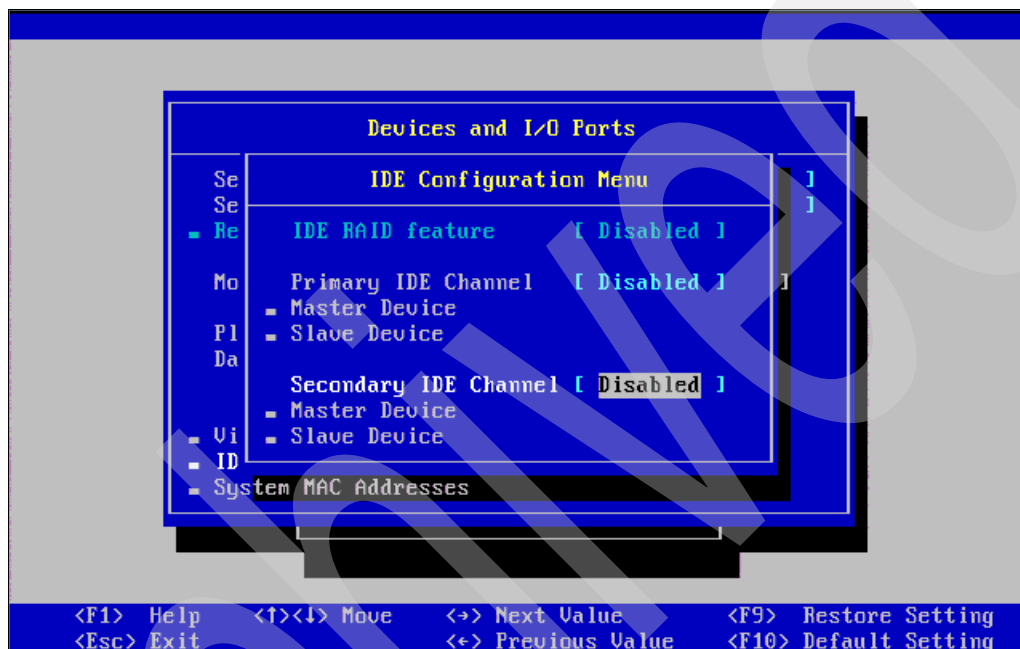

Figure 5-7 Disabling IDE Devices
3. Select IDE configuration from the next menu and disable the primary IDE and secondary IDE connections, as shown in Figure 5-7.